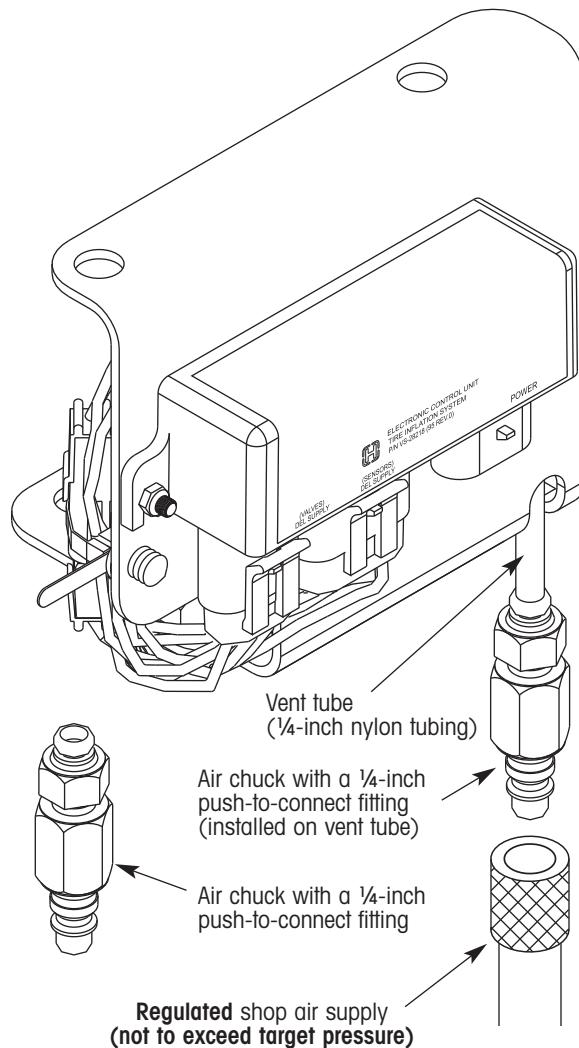

Figure 7. Manually pressurizing the system to check for air leaks
- Connect an air chuck with a ¼-inch push-to-connect fitting to the vent tube on the delivery solenoid valve (figure 7).